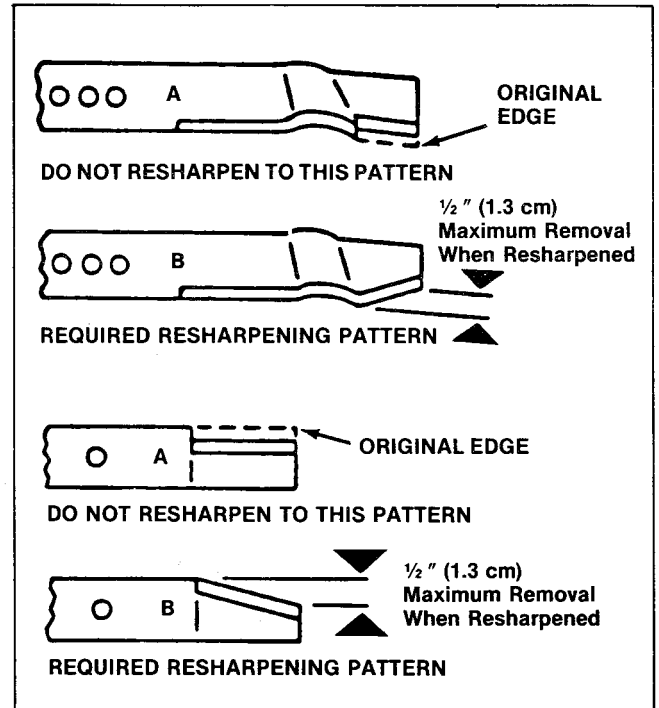

FIGURE 16
1. When sharpening blades of cutter and recutter bars, do not follow the original angle of grind as shown in "A" of Figure 16. Instead, grind new cutting edges on a diagonal as shown in "B." Make sure that each cutting edge receives an amount of grinding necessary for the bar to remain balanced.
Incorrect sharpening of recutter and cutter bars as displayed in "A" of Figure 16, could cause the blade tips to break off after a sudden impact of the bar with a foreign object during operation. Broken pieces of the bar thrown from the mower could inflict serious bodily injury.